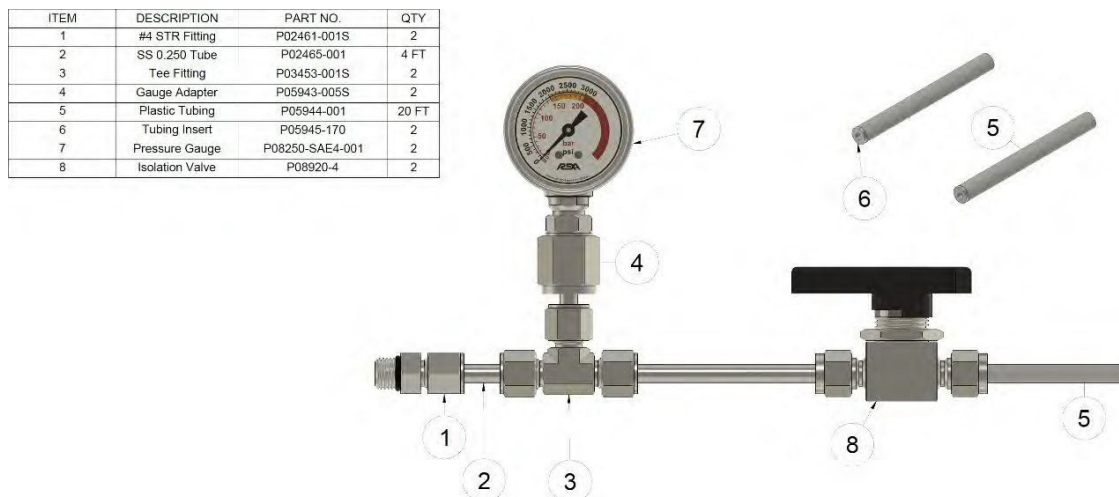
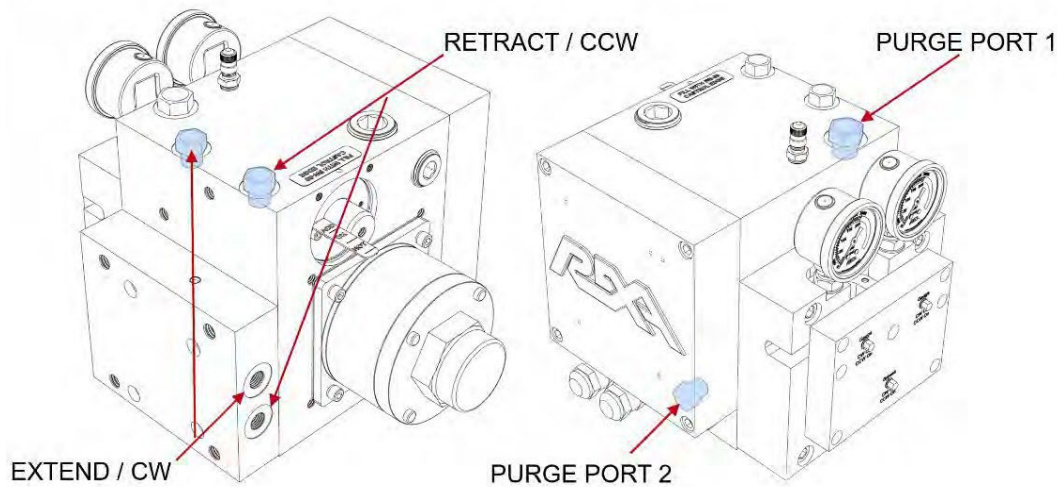

Figure 21: Bleed Kit (PN: K09275)
Figure 23: Extend/CW (clockwise) and Retract/CCW (counterclockwise) Ports
NOTE: To purge the actuator of air, it is recommended that you use the REXA bleed kit. See Figure 21 for details.
4. Attach the REXA bleed kit in Figure 21 to the open ports Extend/CW (clockwise) and Retract/CCW (counterclockwise) in Figure 23. Follow the hydraulic lines to differentiate between pressure directions.